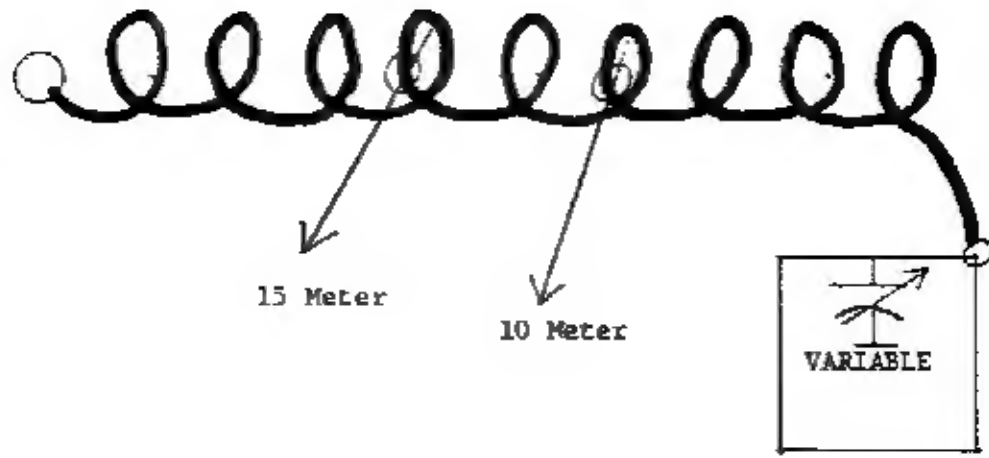

FIGURE 4
STEP 6. Install 14 gauge wire from the tank coil to the band switch, FIGURE 4 and 5.